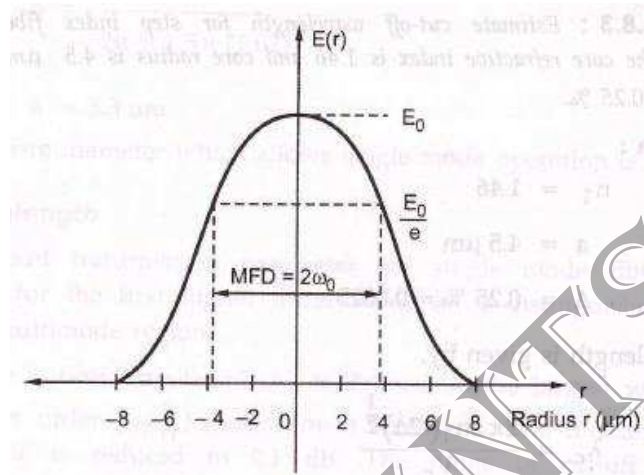

Fig. 1.8.1 Mode field diameter
- x In single mode fiber for fundamental mode, on field amplitude distribution the mode field diameter is shown in fig. 1.8.1.